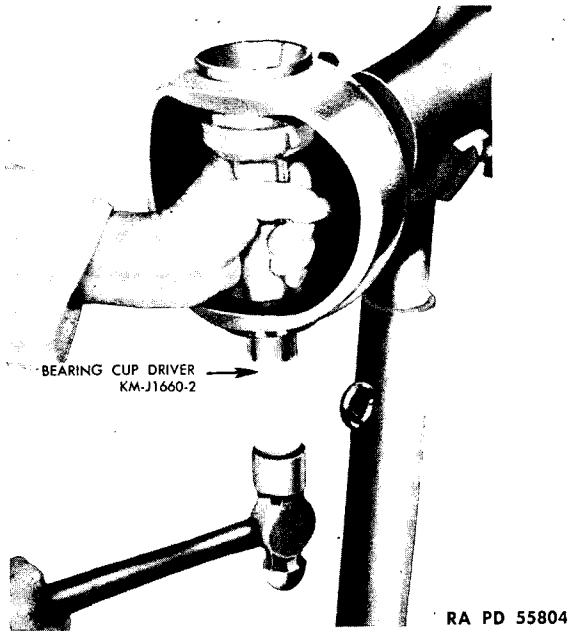

Figure 7—Removing Steering Knuckle Bearing Cup
(4) REMOVE BEARING CUPS (fig. 7).